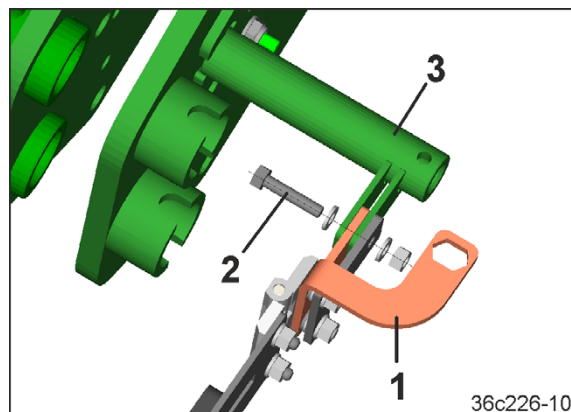

Fig. 115
5. Bolt the section (Fig. 115/1) with a hex. bolt (Fig. 115/2) onto the holder (Fig. 115/3).